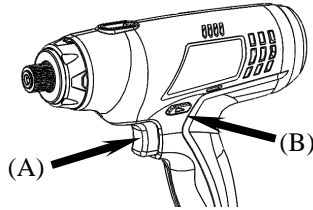

Fig. 7
To select forward rotation, RELEASE THE SWITCH (A) (see Fig. 7), and push the forward/reverse lever (B) (see Fig. 7) toward left side of the tool ◀.
To select reverse rotation, RELEASE THE SWITCH (A) (see Fig.7), and push the forward/reverse lever (B) (see Fig.7) toward right side of the tool ▶.